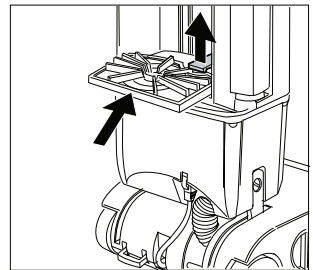

Figure 8
5.2 Exchanging the safety filter <Figure 8>